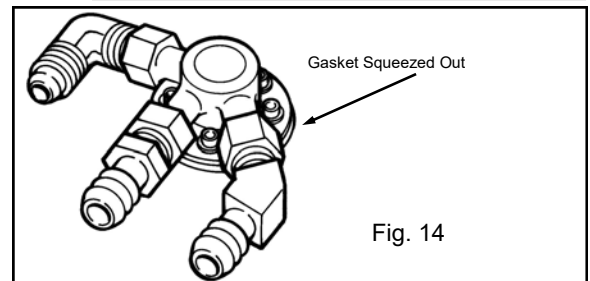

Fig. 14
23. Gradually tighten alternate bolts until they are all securely tightened and the gasket is partially "squeezed out" all around the mounting plate (torque the bolts to 90 in.-lbs (10.2 nm) maximum. See Fig 14.